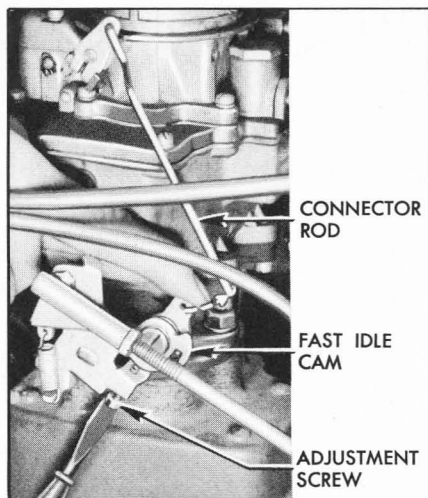

Fig. 3-40—Setting Fast Idle—Carter
8. While holding the arm of fast idle cam in contact with boss on throttle body so that the fast idle adjustment screw bears against the highest section of cam, turn adjustment screw to obtain engine speed of 1200 RPM. See figure 3-40.